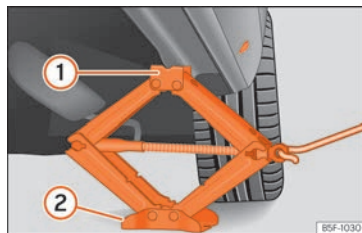

Fig. 38 Cross member: positioning the jack on the vehicle.
- Turn the jack crank handle, located below the strut support point, to raise it until the tab ① » **Fig. 38** is below the housing provided.
- Align the jack so that tab ① “grips” onto the housing provided on the strut and the mobile base ② is resting on the ground. The base plate ② should fall vertically with respect to the support point ①.